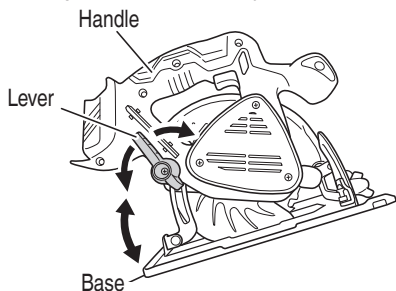

Fig. 8
6. Adjusting the cutting depth (Fig. 8)
If the lever to adjust cutting depth (Fig. 8) is loose, injury can result. Make sure that it is tightened securely.